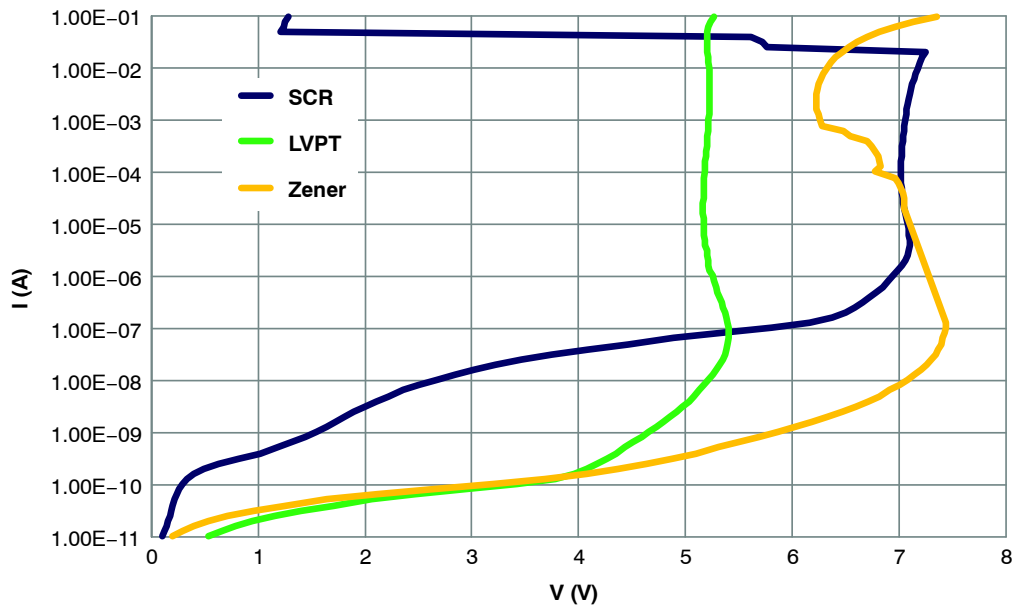

Figure 17. Low Current, DC, IV Characteristic of Each Technology
- ESD8100 series: Low voltage punch through (LVPT) type technology. The key advantage for this technology is a very low turn-on voltage as shown in Figure 17. This technology provides optimized protection for chipsets with small geometries against recoverable failures due to voltage peaks (also known as "soft failures").